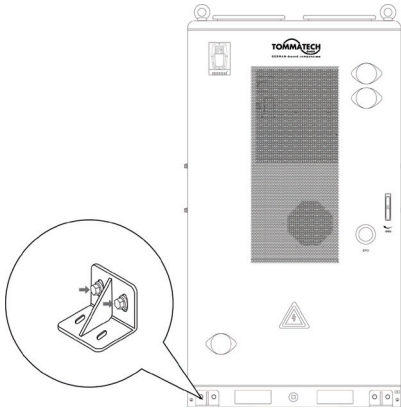

Figure.3
6. Secure four cabinet mounting feet onto the cabinet using M16*40 Hex bolts (Figure.3).